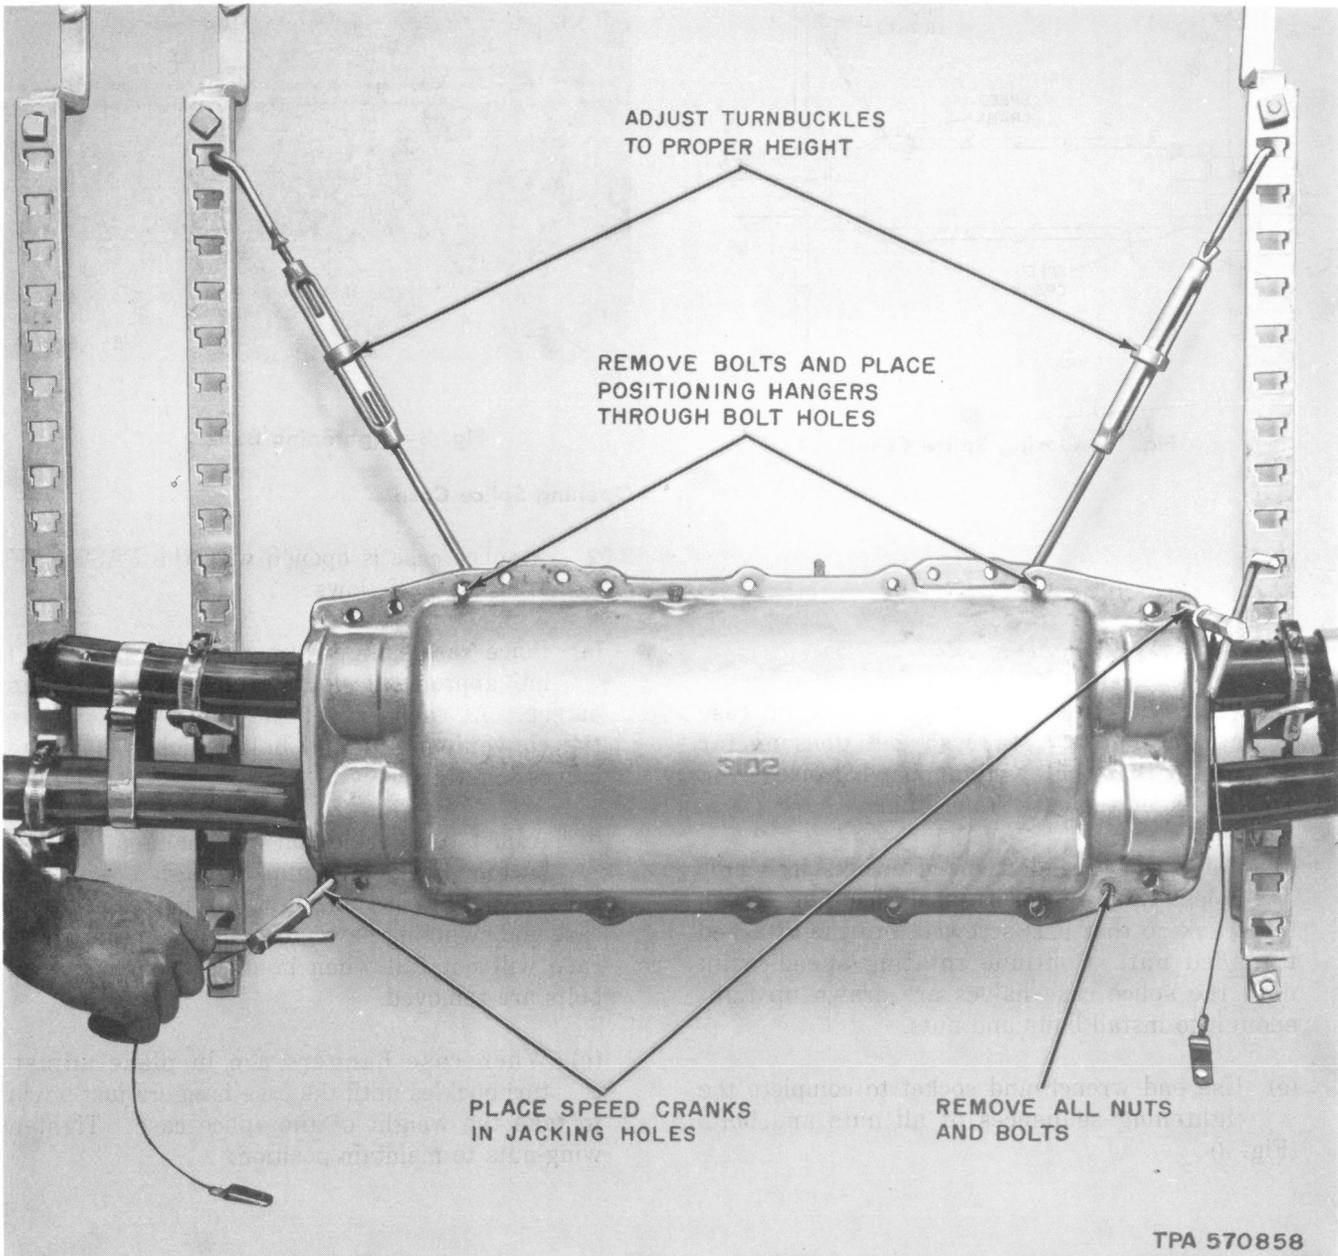

Fig. 4—Opening Splice Case
- (d) Remove all nuts and bolts holding splice case halves together (Fig. 4)